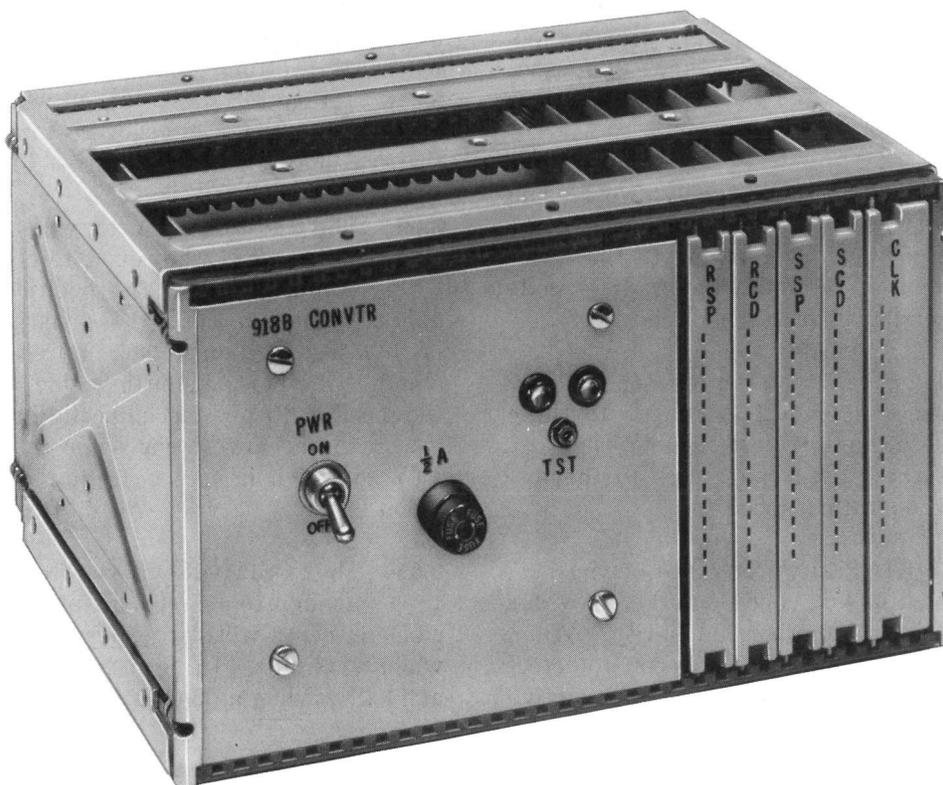

Fig. 2—918B Multispeed and Code Converter—Front View
2.01 The converter consists of five AR-size circuit boards and a power supply mounted in a standard 59C apparatus mounting (Fig. 2). The unit can be mounted in a 19- or 23-inch bay using 6 vertical inches of frame space. Two units may be mounted horizontally in a 23-inch bay using 6 vertical inches of frame space. The converter operates in conjunction with a position TTY mounted on the position TTY shelf of a No. 2 or 9B serviceboard, 904G/H/L DTC, or in the position TTY well of a DOTC console.